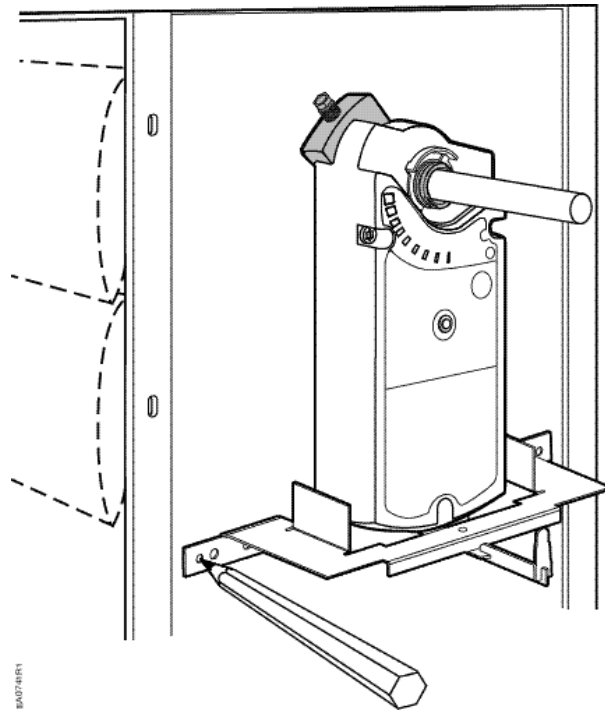

Figure 2.
4. Slip the actuator over the damper shaft. See *Figure 2*.